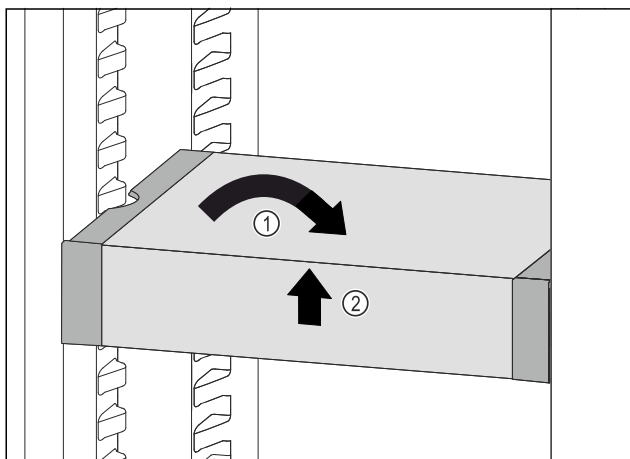

Fig. 138
- Set VarioSafe straight. Fig. 138 (1)
- Lift VarioSafe at the front. Fig. 138 (2)